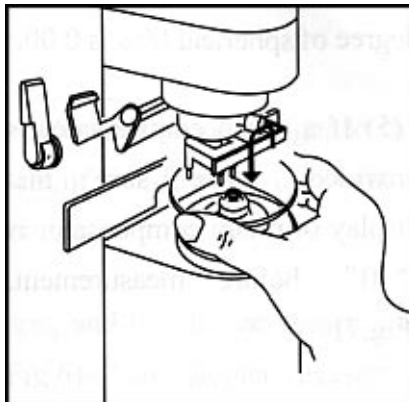

Fig. 8
- (1) Lens shall be placed on measurement bearing seat with concave facing downwards (Fig.8).